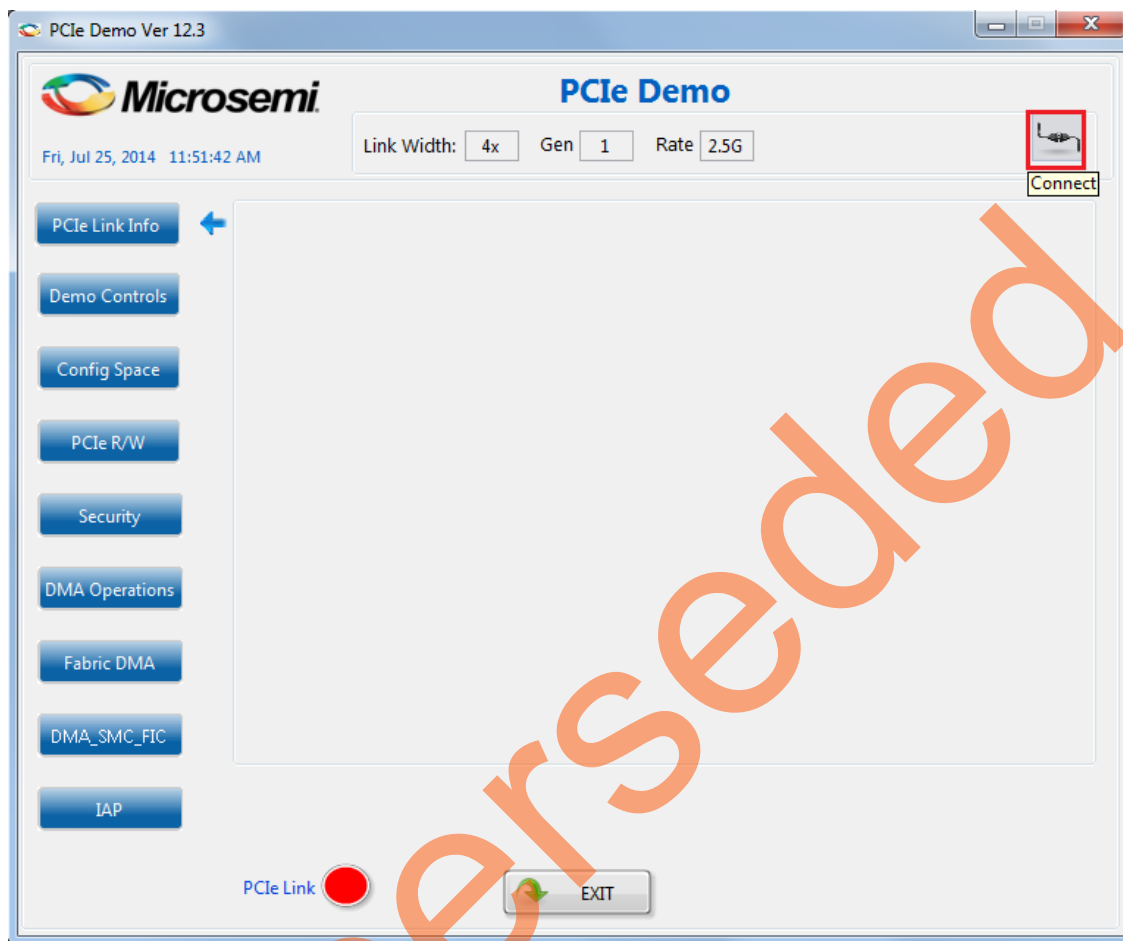

Figure 18 • PCIe Demo GUI
3. Invoke the GUI from **All Programs > PCIeDemo > PCIe Demo GUI**. The GUI is displayed as shown in Figure 18.